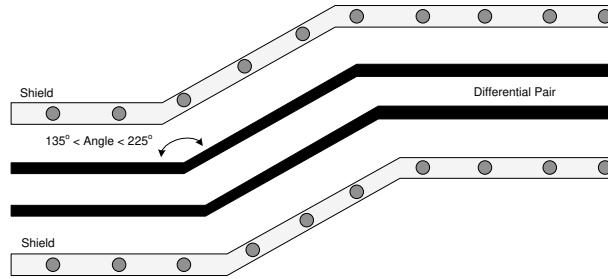

Figure 9-14. USB Routing Example
- Ensure that the bend angles associated with the differential signal pair are between 135° and 225°. (See Figure 9-14).